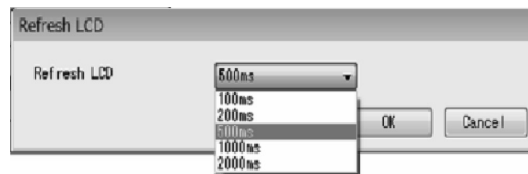

Fig.77
- ③ Click the triangle on the right side of "Refresh LCD" as shown in Fig. 77, and select the frequency to set from the drop-down list.